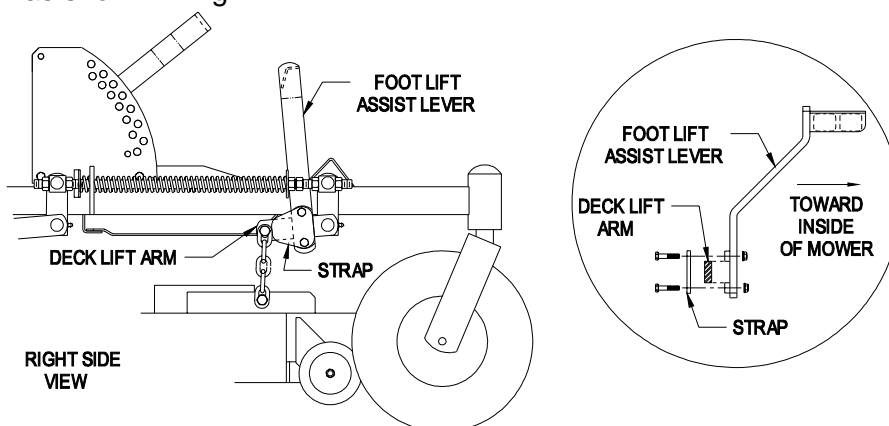

FIG. 2
- a) Remove the lift assist arm from the rear deck lift arm or the seat base frame (the lift assist is fastened in this position for shipping only) and attach to the front deck lift arm as shown in Fig. 2.